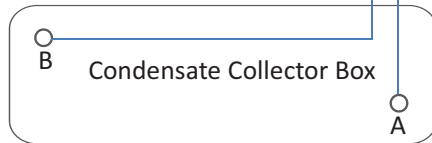

Figure 19
- ▶ In this installation, hoses connecting between ports of overflow protection pressure switch (overflow switch) and pressure tabs on the condensate collector box **MUST** be switched. The overflow switch has two ports, which is different from two other regular pressure switches that have only one port. Make sure that black port (positive) is connected to the lower position tap on condensate collector box and gray port (negative) to higher tap of condensate box. Connecting incorrectly will result in failure to protect condensate overflow. See Fig. 19.